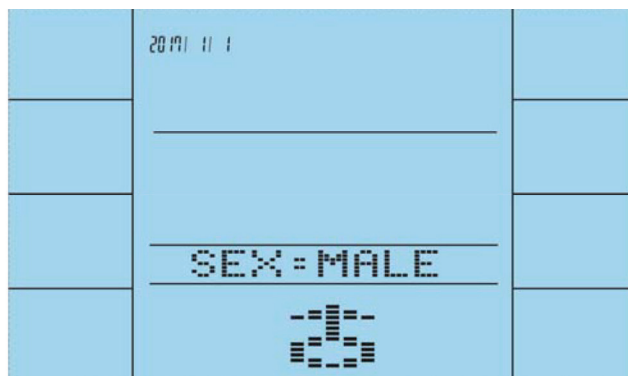

Fig. 7
7. Enter the user data for gender, age, height, and weight (fig. 7 to 10).